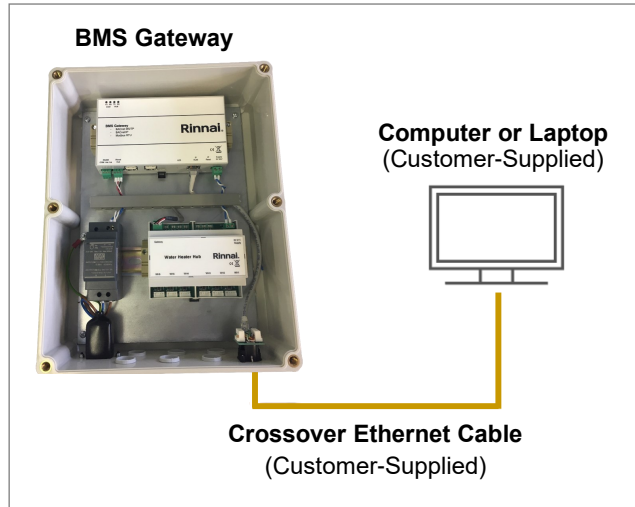

Fig 99. Connect to BMS Gateway Using a Crossover Ethernet Cable
1. Connect one end of the crossover Ethernet cable to the BMS Gateway ethernet port, and the other end to the computer ethernet port (Fig 99).